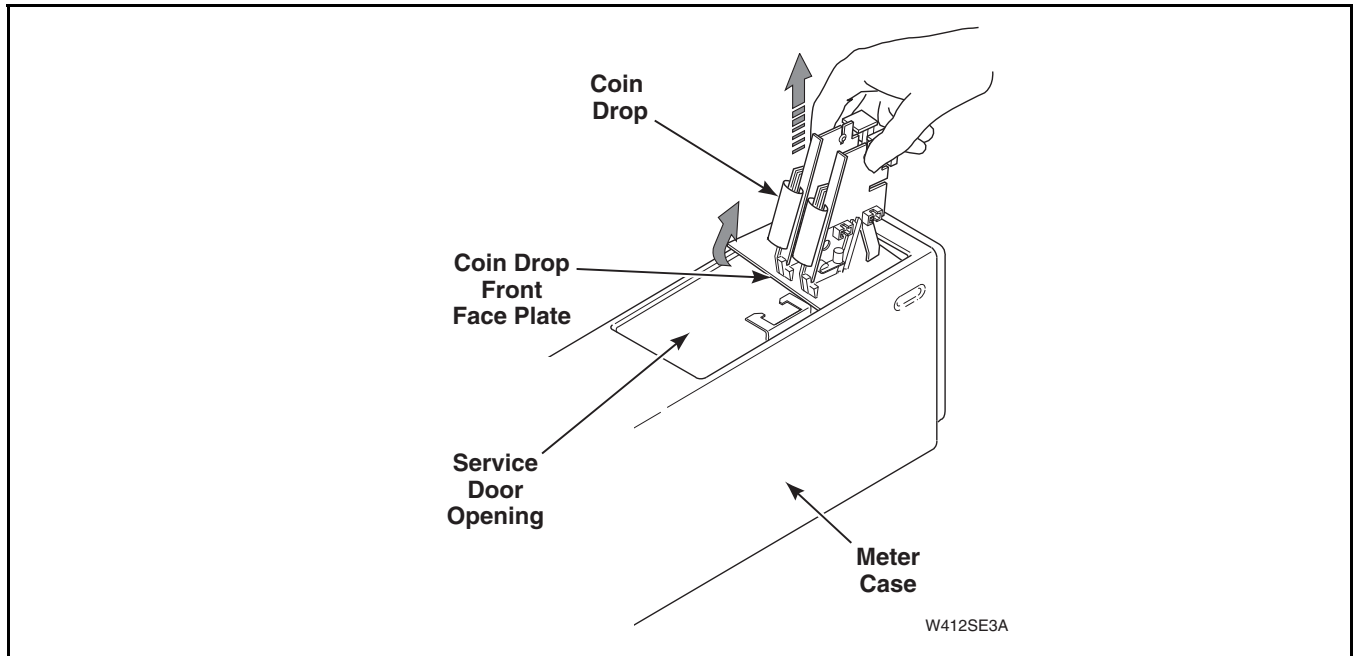

Figure 54
- (11) Carefully lift complete coin drop straight up and out of meter case. Refer to *Figure 54*.
**NOTE:** When lifting drop out of meter case, tip drop slightly so front face plate clears service door opening. Refer to *Figure 54*.